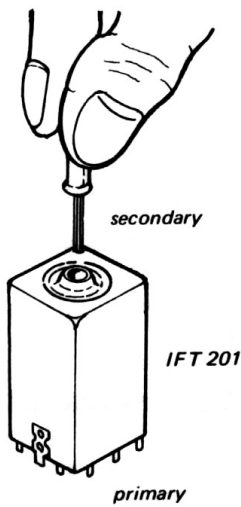
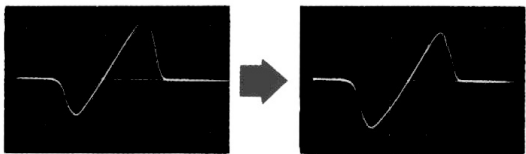

Fig. 5-5 Fm discriminator adjustment
Fig. 5-6. "S" response curve
4. Turn the top core of transformer IFT201 with the hexagonal-head alignment tool (as shown in Fig. 5-5) to obtain an "S" curve response and to equalize negative and positive peaks as shown in Fig. 5-6.